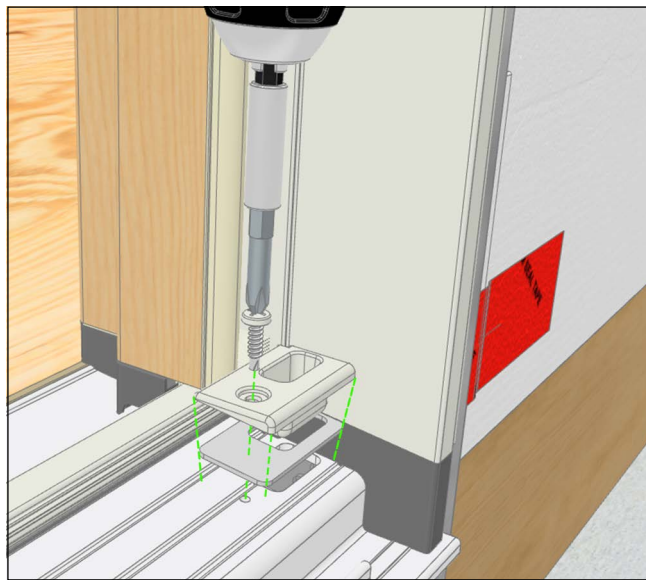

Figure 9
2. Install sill strike using sill color-matched 8-18 x 3/4" pan head screw. See Figure 9.